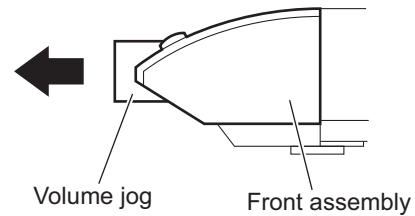

Fig.2
#### 3.2.2 Removing the SW board (See Figs.2 to 3)
- (2) From the top side of the DVD mechanism assembly, remove the two screws **A** attaching the leaf spring to the bushing and remove the leaf spring. (See Fig.2.)